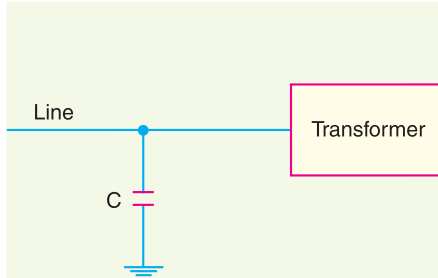

Fig. 24.14
- (i) A condenser connected between the line and earth can act as a surge absorber. Fig. 24.14 shows how a capacitor acts as surge absorber to protect the transformer winding. Since the reactance of a condenser is inversely proportional to frequency, it will be low at high frequency and high at low frequency. Since the surges are of high frequency, the \*\*\*capacitor